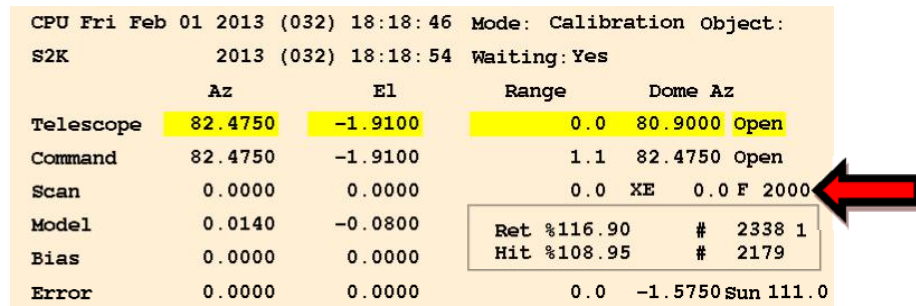

Figure 4-16: Section of the Ratgui main window showing that the SLR laser is firing at 2 kHz
8. **Make sure the laser is firing at the correct rate** (approx. 2 kHz) – This should show up on the main RAT window (Figure 4-16).